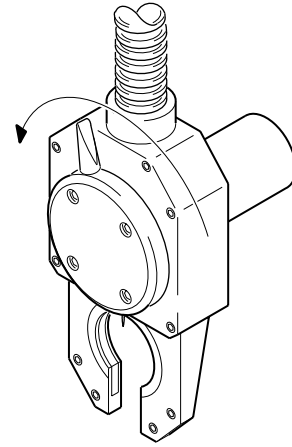

Figure 25 Releasing the Locking Lever
1. Rotate the locking lever on the weld head counterclockwise until it stops. See Figure 25.